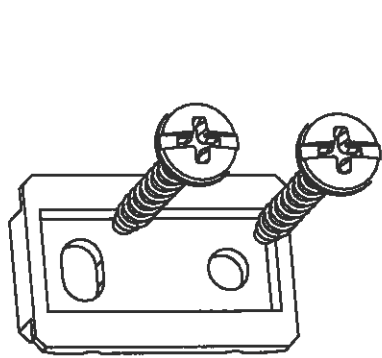

Figure 7
- 1 Install the Wall Mount bracket horizontally onto the wall using the screws provided. See figure 7.